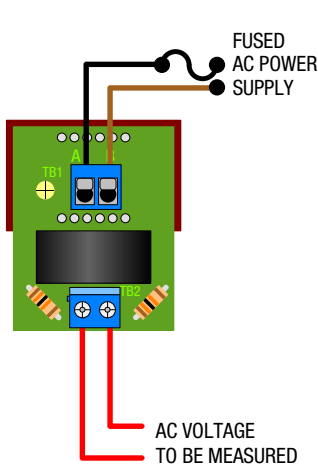
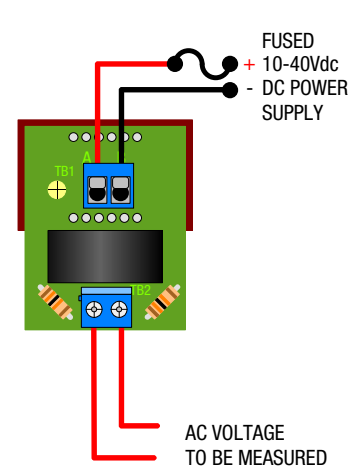

Figure 1A.
Figure 2.
- Power Supply Polarity, Fusing, and Grounding:** As shown in Figures 1A, 1B, and 2, the two power supply inputs, TB1-A and TB1-B, on ac-powered DMS-20RM voltmeters ("-AC1" suffix) are not polarity sensitive, that is, they have no "AC LO" or "AC HI" designations. Also, ac-powered models do not include or require a connection to earth/chassis ground. DC-powered models ("-DC2" suffix) are reverse-polarity protected, and must be connected as shown in Figure 2 for proper operation. DMS-20RM voltmeters are not internally fused. Terminal block TB1 is to be used only for powering the power meter's internal circuitry; it must not be used to supply power to external loads. The supply wires feeding these power meters must be fused with a 0.25A/250V time delay/time lag fuse, in accordance with applicable regulatory codes. Wire insulation must be stripped to within ±10% of the stated dimensions, and wires should be inserted into TB1 such that their insulation is not pinched by the screw terminal. See the Functional Specifications section of this data sheet for wire sizes and tightening torque for TB1's screw terminals.